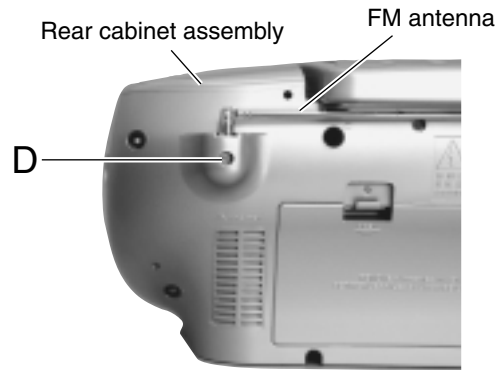

Fig.8
(See Figs. 8 to 10.)
1. From the rear side of the rear cabinet assembly, remove the screw **D** retaining the FM antenna. (See Fig.8.)